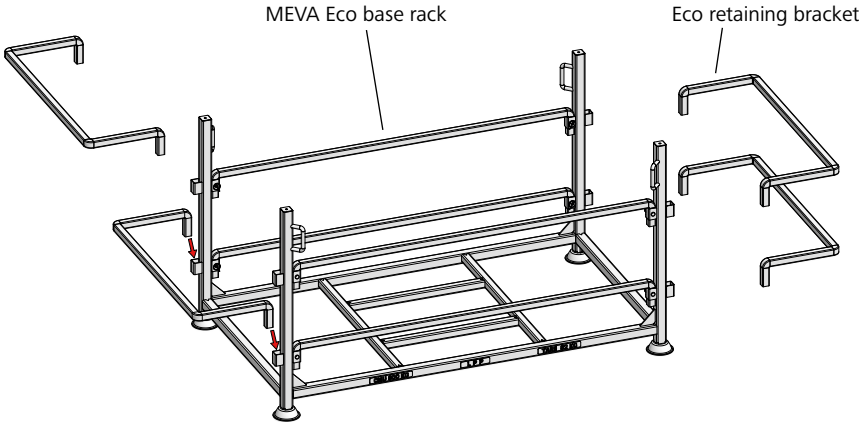

Fig. 50.2
- The rack (Fig. 50.2) consists of: